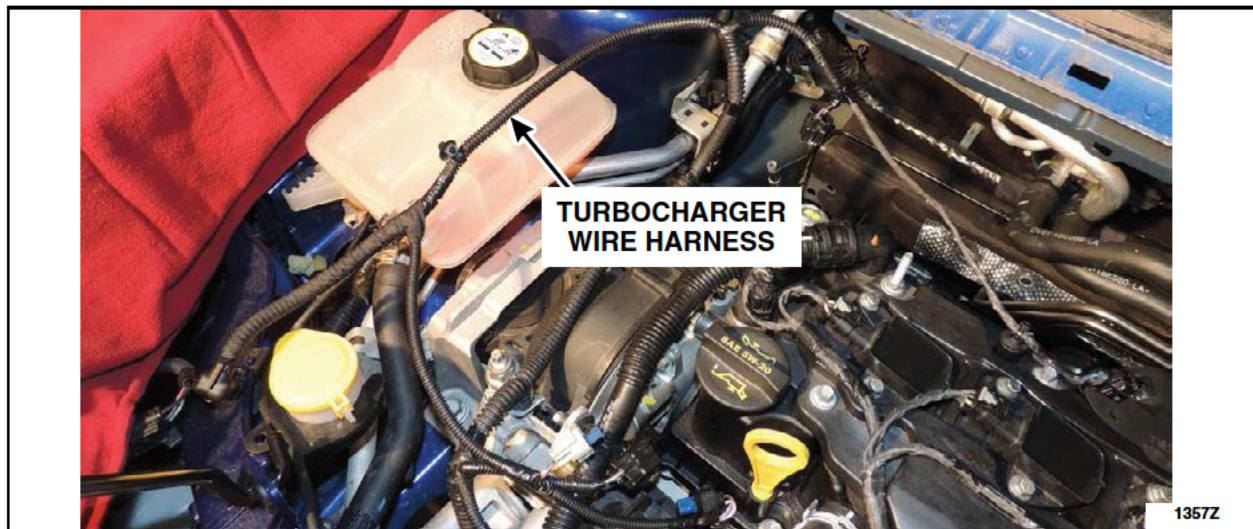

FIGURE F2
1. Route the turbocharger wire harness to the top of the engine compartment. See Figure F2.